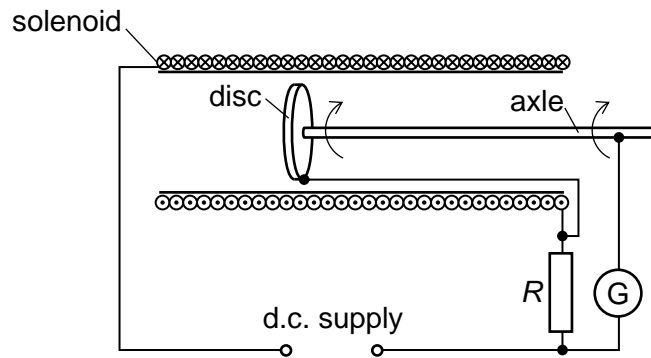

Fig. 4.1
- 4 Fig. 4.1 shows the cross-sectional view of a long solenoid. A small copper disc spins via a copper axle which lies along the axis of the solenoid. The ends of the solenoid are connected in series with resistor R to a d.c. supply.